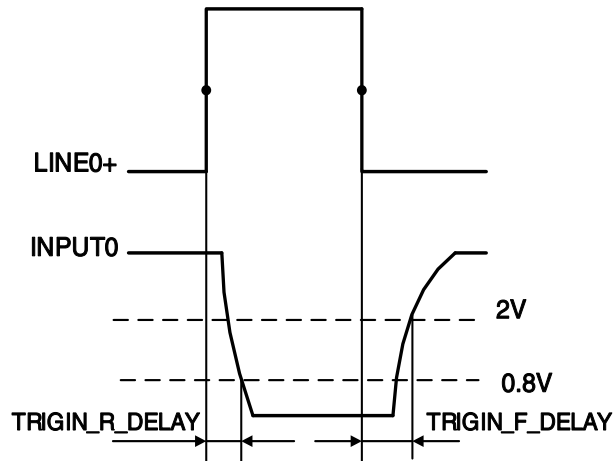

Figure 7-4 Parameter of opto-isolated input circuit
- Rising edge delay: <math><50\mu\text{s}</math> ($0^{\circ}\text{C}\sim 45^{\circ}\text{C}</math>), parameter description as shown in Figure 7-4$
- Falling edge delay: <math><50\mu\text{s}</math> ($0^{\circ}\text{C}\sim 45^{\circ}\text{C}</math>), parameter description as shown in Figure 7-4$